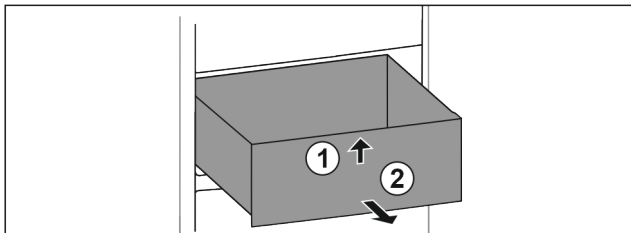

Fig. 103
- ▶ Lift up drawer at the front. Fig. 103 (1)
- ▶ Remove drawer to the front. Fig. 103 (2)